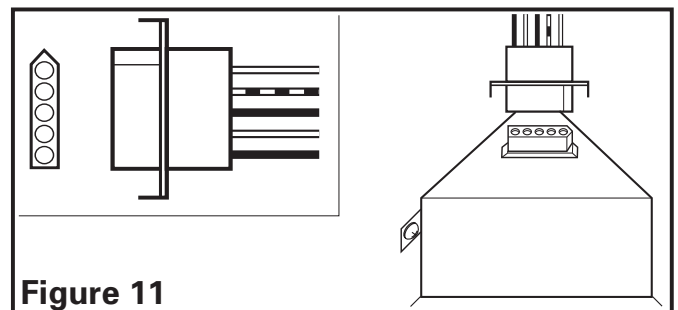

Figure 11
- Plug the fan's quick connect motor cord into the receptacle. This cord will only fit one way into the receptacle (Figure 11).